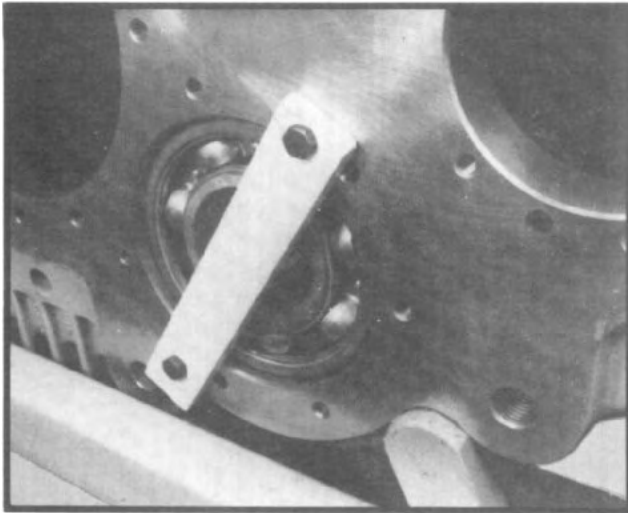

Fig. 83
- Install special tool over the rear bearing and bolt to housing. (See Tool Reference, Section X and fig. 83.)